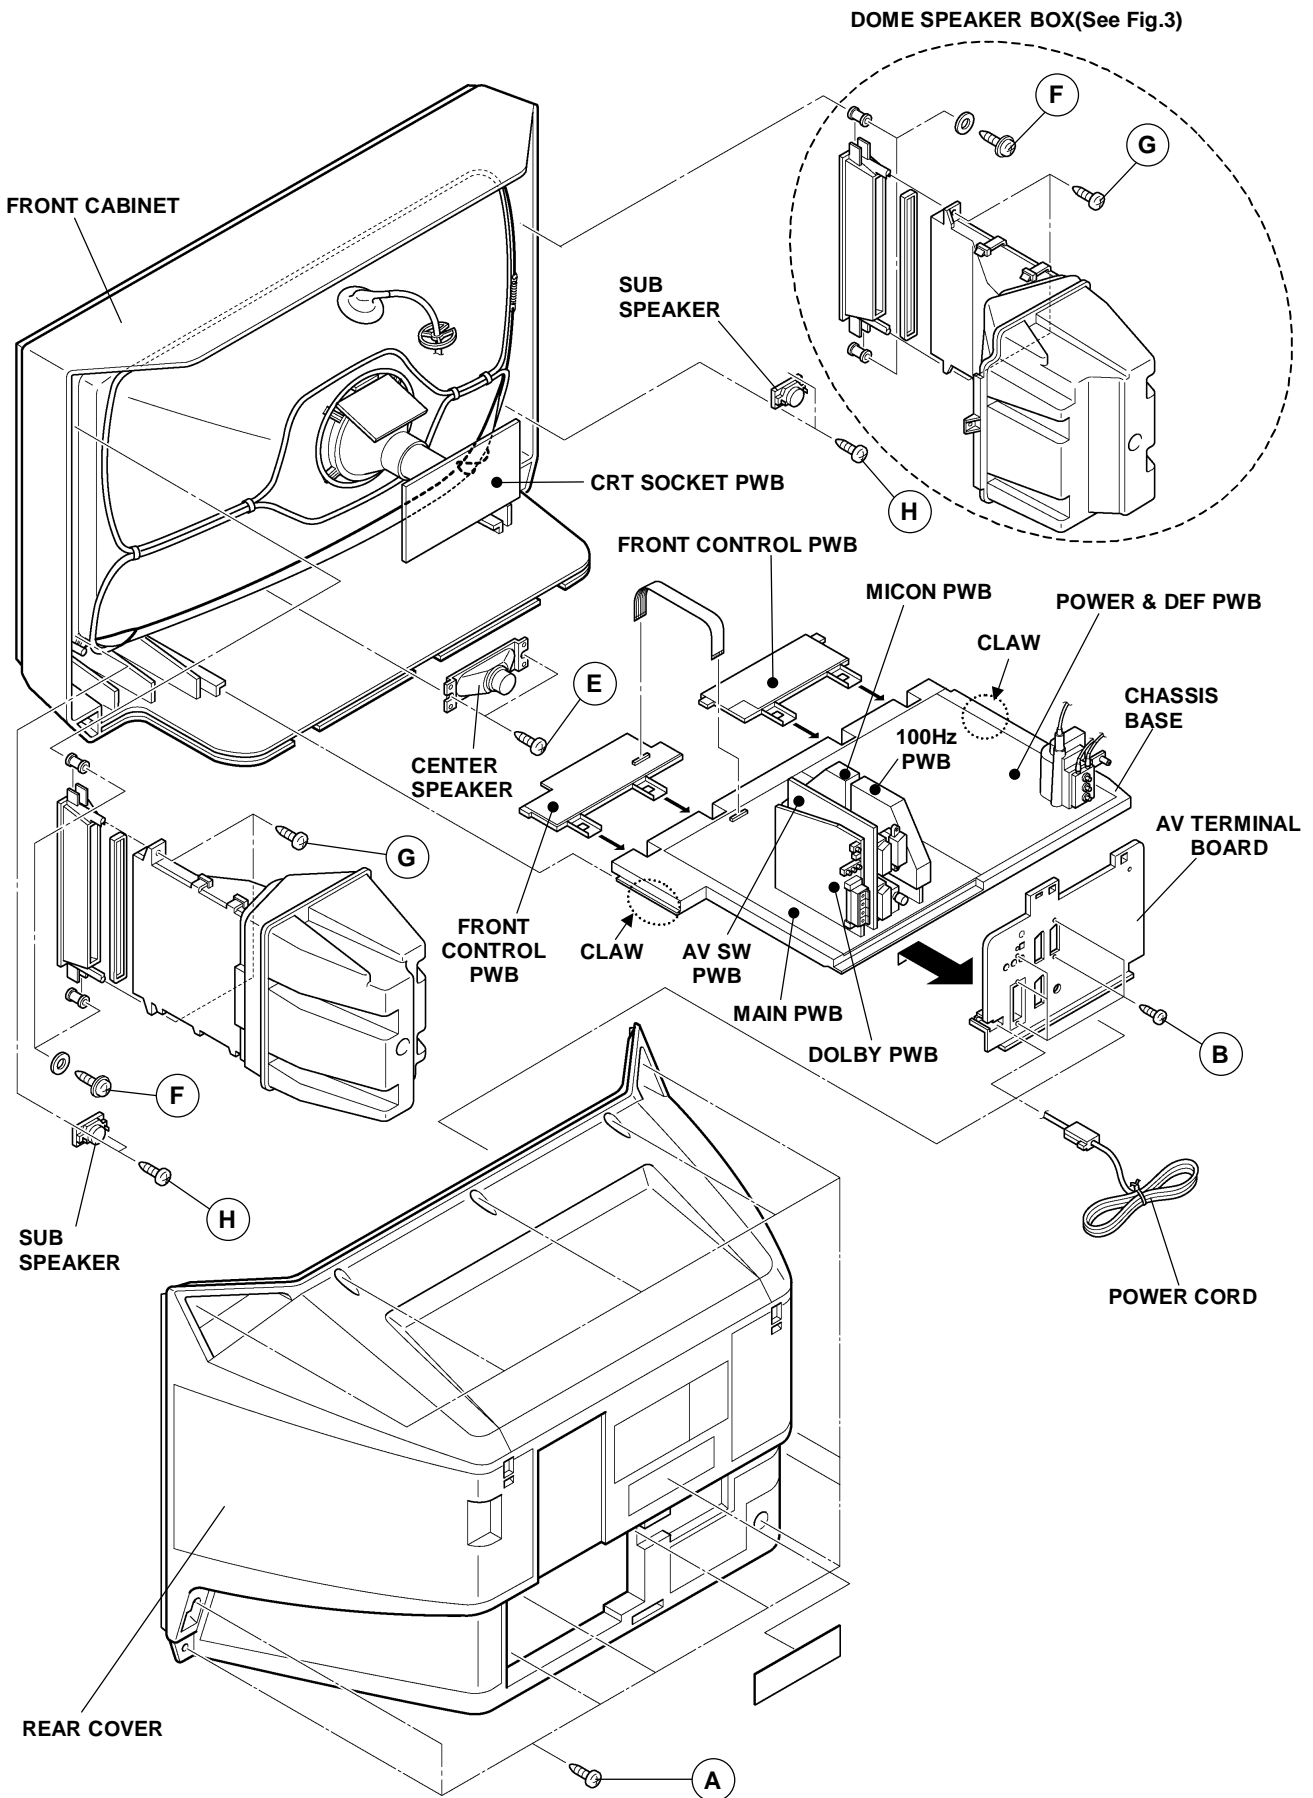

Fig. 1
2. As shown in the Fig. 1, remove the 13 screws marked **A**.
1. As shown in Fig. 1, remove the 5 screws marked **B**.
1. As shown in the Fig. 1, remove the 2 screws marked **E**.
1. As shown in Fig. 1, remove the 2 screws marked **F**.